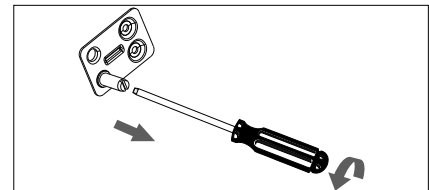

Fig. 6
- ▶ Use a slotted screwdriver to remove the hinge pin (Fig. 6).